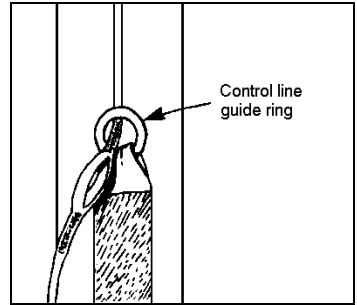

Figure 2.
Step 4.) Set the brakes by pulling the control line down through the guide ring until the brake loop "cat-eye" just passes through the guide ring. (See Figure 2.)